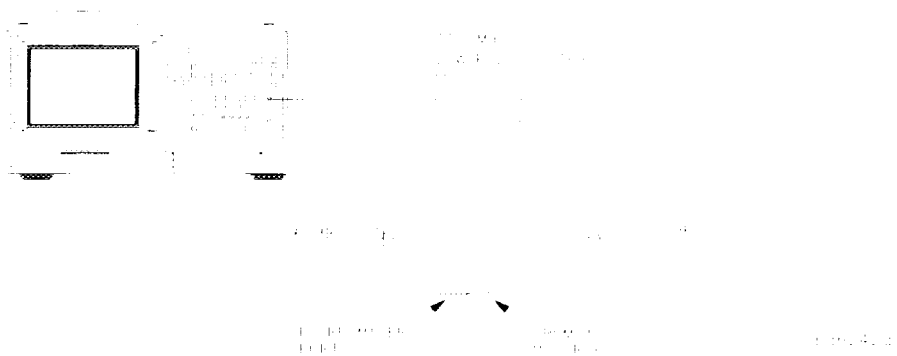

Figure 8-3. Measurement Path Calibration Setup
- 3 Add the pads and low pass filter to the measurement loop as shown in Figure 8-3. The low pass filter is required to limit the range of frequencies passed into the R-channel input port. The filter is selected to pass the IF frequencies for the measurement, but prevent the LO feedthrough and unwanted mixer products from confusing the phase lock loop operation. A pad is used to terminate the filter and another pad is used to improve the RF port match for the mixer. These pads and filter are present in the measurement path when testing the mixer and must be accounted for to properly measure the insertion loss of the mixer.